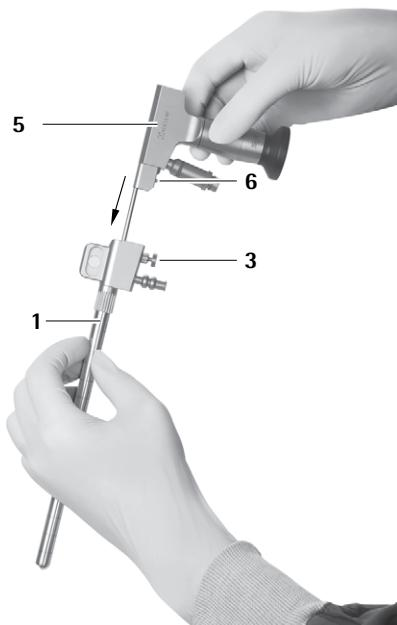
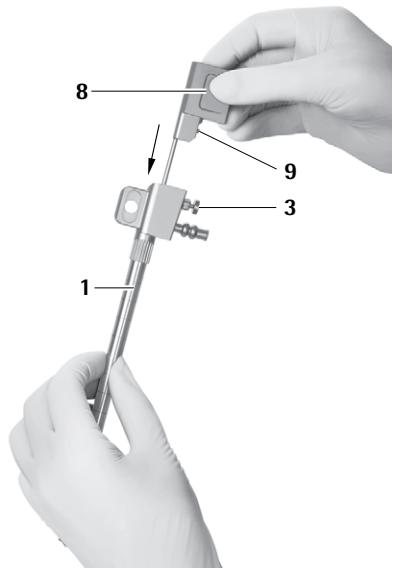

Fig. 14
Fig. 15
- ▶ making sure that the locking pin **6** of the endoscope **5** or locking pin **9** of the obturator for the optical channel **8** is on the same side as the release button **3** of the MINOP InVent trocar **1**, see Fig. 14 and see Fig. 15.